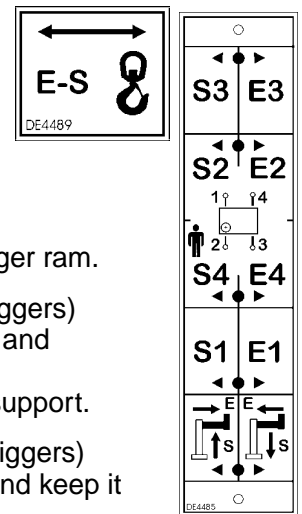

fig. 12
**Controls workable both from the distributor side of the crane (fig. 12 DE4485) and from the double control side (fig. 13 DE4497)**